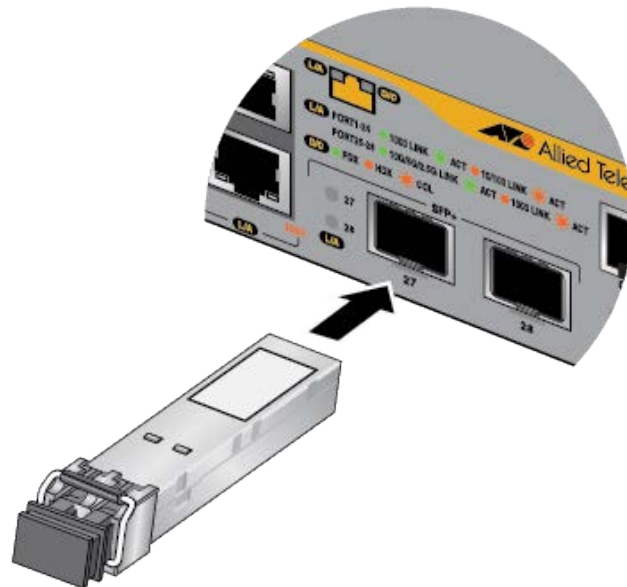

Figure 77. Installing an SFP+ Transceiver
3. Position the transceiver with the Allied Telesis label facing up. Refer to Figure 77.